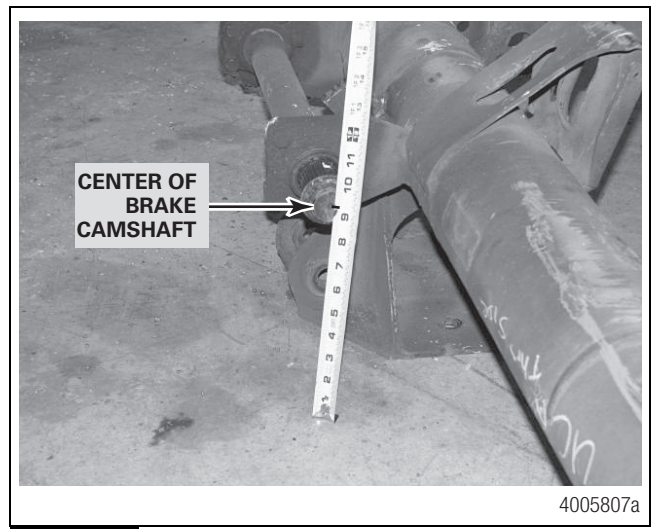

Figure 8
1. Measure from the center of the splined end of the camshaft to the flat surface that the axle seats are on. Figure 8. Refer to the following measurement examples. These are approximate measurements.